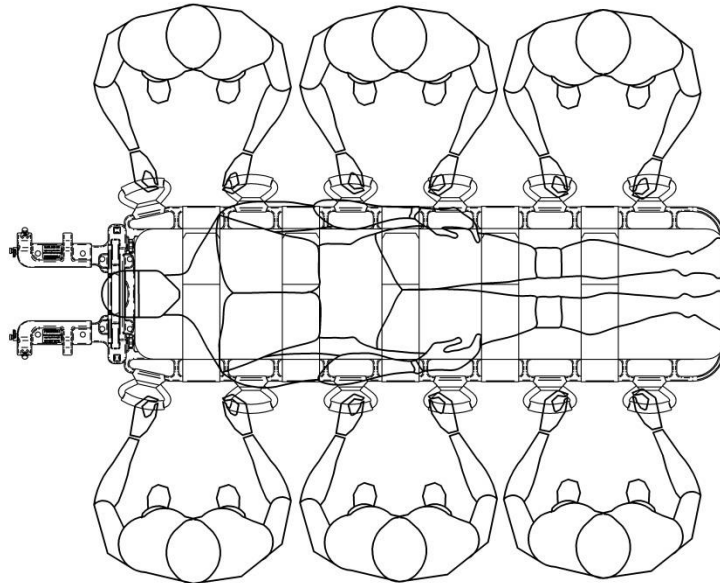

Figure 19. Lifting/Transporting a Patient with Six People
Consult Figure 19 and Figure 20 for proper and Figure 21 for improper lifting positions. Depending on the patient weight, a minimum of four (4) people are required to move the patient when secured to the AtamA System. For heavier patients, it is recommended that six (6) people move the patient.